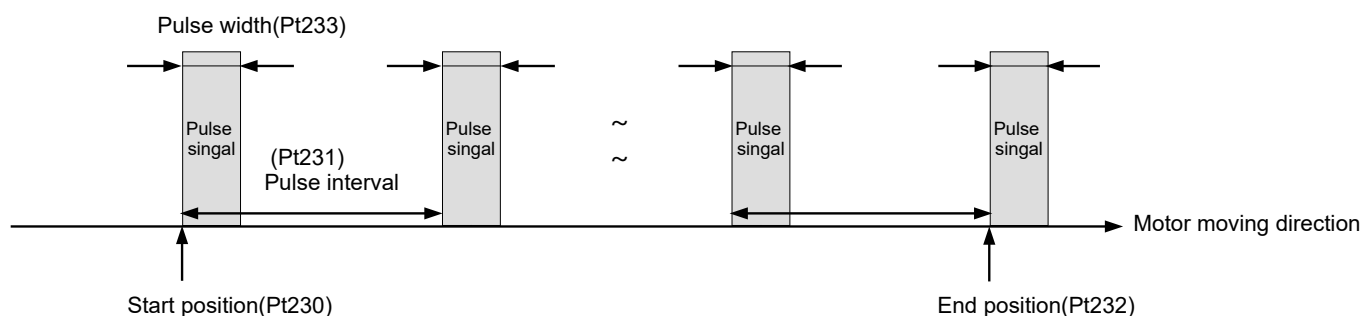

Figure8.13.1
E1 series servo drive provides position trigger (PT) function. This function supports fixed interval pulse trigger, random interval pulse trigger and random interval trigger status mode. Take pulse trigger output for example, when motor moves to the set position, the servo drive simultaneously outputs a pulse signal. The width and polarity of the pulse signal can be user-defined, as shown in figure 8.13.1. A user can refer to table 8.13.1 for detailed specification and function descriptions. Position trigger function has no human machine interface, so its related parameters must be set via PDL or MPI. The hardware pins for position trigger digital output (PT) signal are CN6 46 and 47 (3.3 V/50 mA). The signal can be allocated to digital outputs O1~O5 (24 V), if users cannot support such voltage level. Position trigger (PT) function is mainly used in application which requires simultaneous in-position signal for high-speed and high-precision processing, such as laser equipment, line scan camera and lithography equipment.
When the motor moves to the set start position (Pt230), the driver will output the first pulse signal synchronously. When the motor moves to the position of next pulse interval (Pt231), the drive will output next pulse signal. The driver will synchronously output pulse signals in sequence until the motor moves beyond the end position (Pt232), as shown in Figure 8.13.1.